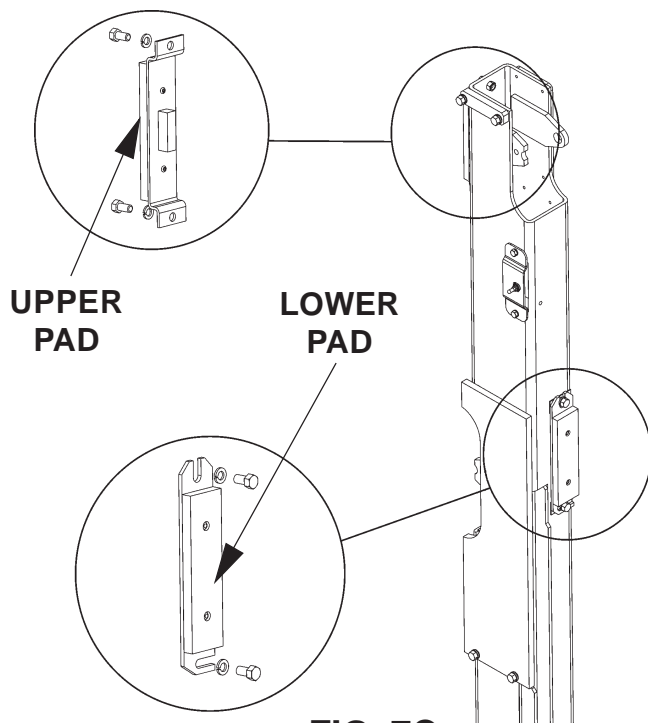

FIG. 7C
4. Use Control Box to lower Runners to the ground in the same way as lowering the Platform. Remove the Upper and Lower Pad Assemblies (**FIG. 7C**) by loosening and removing (2) hex head bolts and (2) lock washers from each Pad.